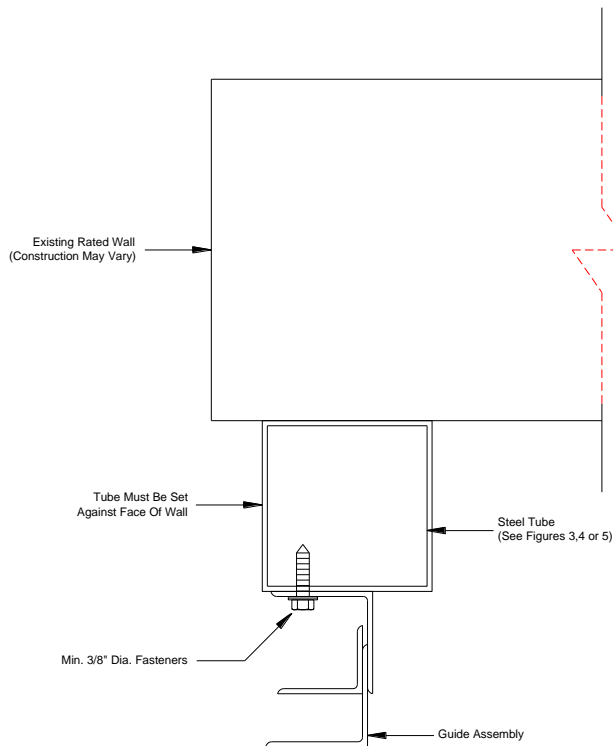

Figure 1
- Figure 1: “E” mounted guide configuration; exposed steel tube